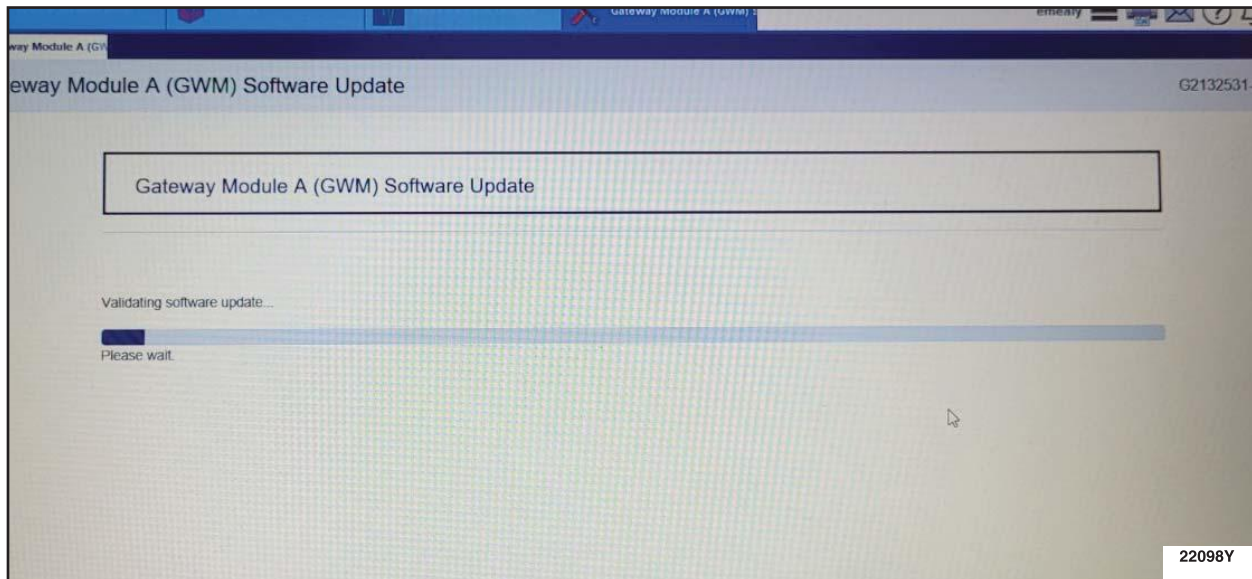

FIGURE 21
25. On the FDRS screen wait for the validating software process to finish. See Figure 21.